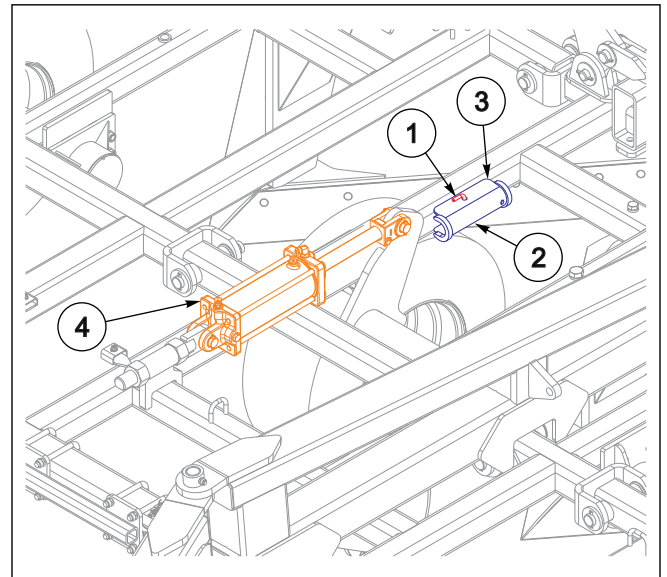

Figure 4-4: Stored Transport Locks
5. Store 2 x 10 transport lockouts (3) on frames as shown in Figure 4-4.
6. Lower and raise the unit to verify that all lift cylinders (4) are working simultaneously throughout the stroke. If the cylinders are not working evenly or together, fully extend the lift cylinders and continue to hold the lever to purge any remaining air. Do not loosen any hoses or fittings. Recheck tractor reservoir to make sure it is within operating limits.
1. Raise the unit to take the weight off of the transport locks. Remove the transport locks from the lift cylinders (on the main frame only.) Store the transport locks on the retainers above the main lift **See Figure 4-4.**